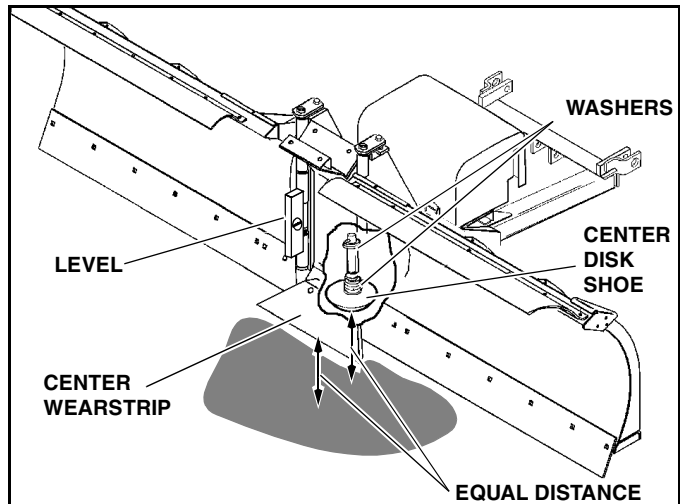

Figure 2-3
5. Determine whether the center disk shoe or the center wearstrip is off the ground and measure the amount that it is off the ground. (See Figure 2-3)